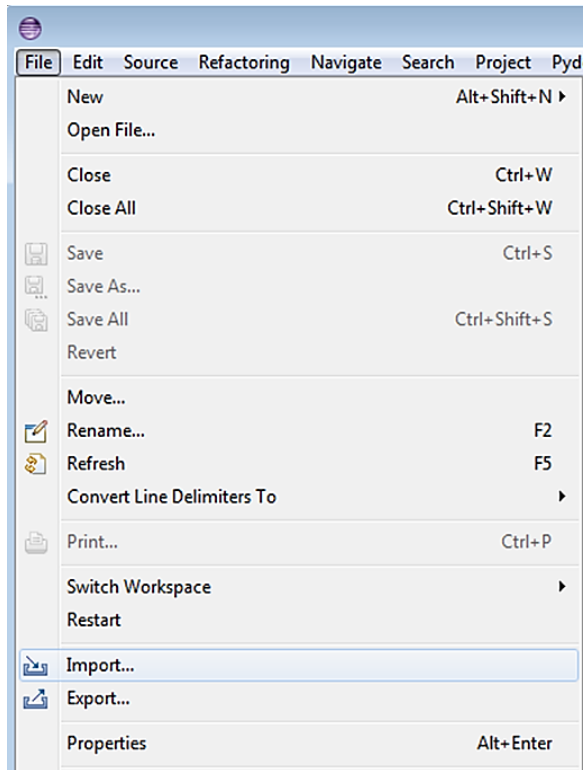

Figure 61: Checking Out VOLTTRON with Eclipse from GitHub
1. Select File, then Import (Figure 61)
2. Select Git -> Projects from Git, then click the Next button (Figure 61)